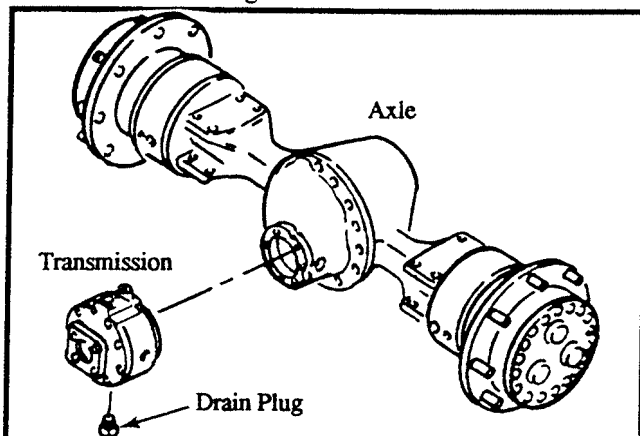

Figure 12-6. Transmission Drain Plug
3. Remove the drain plug from the bottom center of the transmission housing. Be careful, hot oil and components can burn. Refer to Figure 12-6.